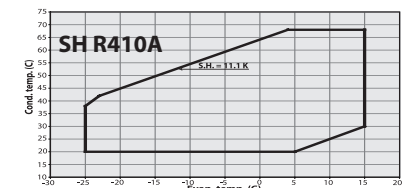

Fig. 6
- Performer® Scroll compressors must only be used for their designed purpose(s) and within their scope of application (refer to Fig. 6).